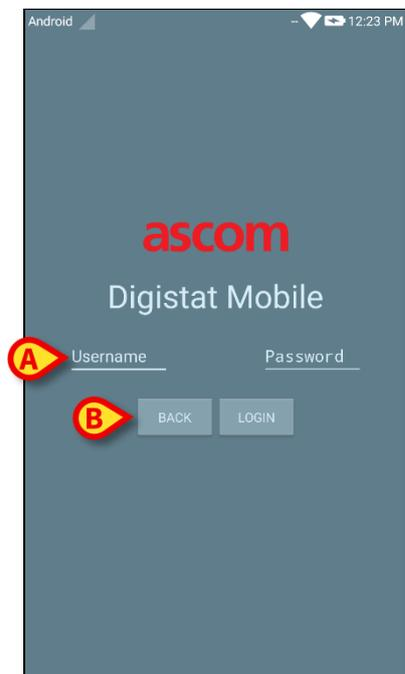

Fig 13
Touch this option to access the login screen (described below - Fig 13) or to log off the application.
The following screen will be displayed (Fig 13)
- Insert username and password (Fig 13 **A**).
- Touch the **Login** button (Fig 13 B)